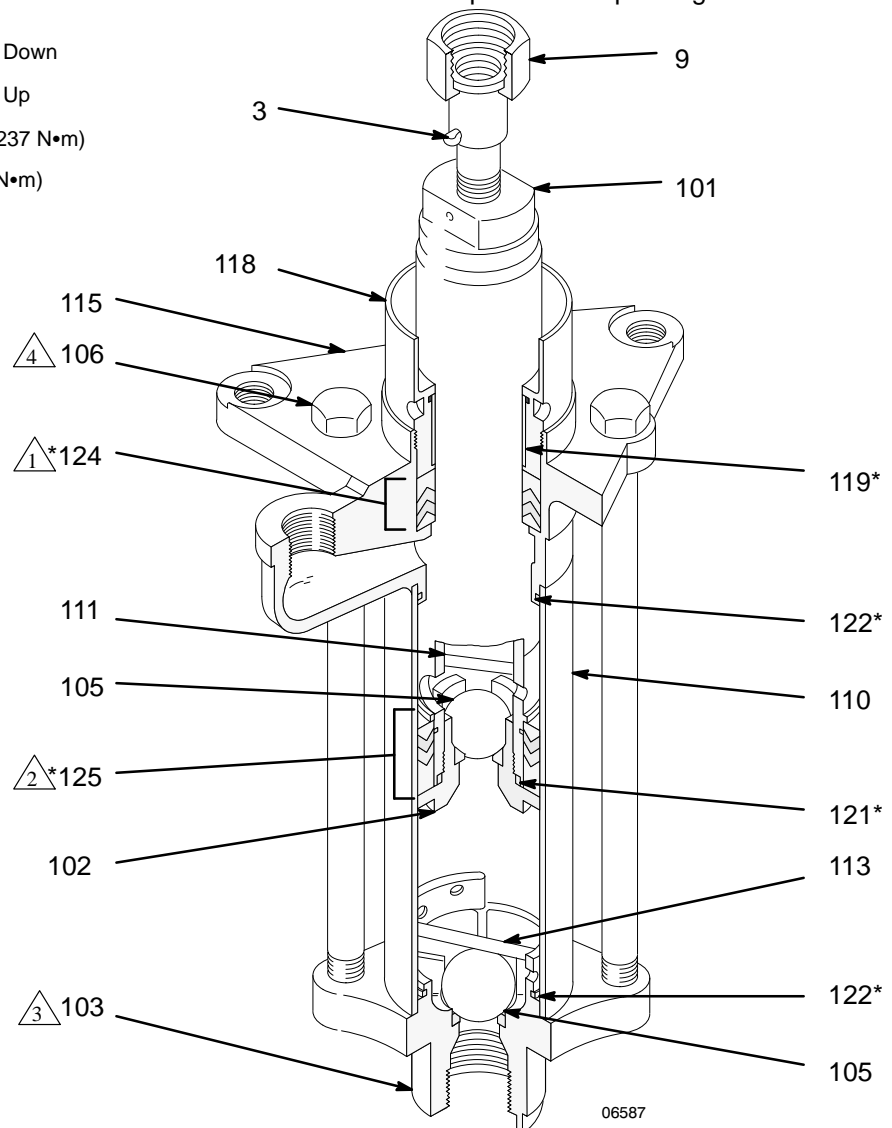

Fig. 4
2. Disconnect the hoses from the pump. Remove the pump from its mounting and clamp it in a vise. See Fig. 4 and the Parts Drawings.
3. Remove the intake tube (15) if present. Unscrew the three tie rod locknuts (4). Disconnect the riser tube (14) if present.
4. Remove the upper cotter pin (3) and unscrew the coupling nut (9). Pull the displacement pump (1) off the air motor (2).
5. Unscrew the four tie bolts (106) from the intake valve housing (103) and remove the intake valve from the pump.
6. Disassemble the intake valve, taking note of the position of the ball stop pin (113). Inspect the ball (105) and seat (103) for nicks and scratches.
7. Pull the cylinder (110) straight off the outlet housing (115), being careful not to scratch or damage the polished inner wall. Remove the o-rings (122).
8. Loosen the packing nut/wet-cup (118). Pull the displacement rod (101) out the bottom of the outlet housing (115).
9. Inspect the polished inner surface of the cylinder (110) and the outer surface of the displacement rod (101) for scoring or scratches which can damage the packings.
10. Unscrew the piston body (102) from the displacement rod (101). Disassemble the piston. See Fig. 4. Inspect the ball (105) and seat (102) for nicks or scratches. If you remove the ball stop pin (111), take note of which set of holes it was installed in.
1. Install the throat gland/packing stack (124*) into the outlet housing (115), with the lips of the v-packings facing down. The stack is preassembled. Do not disassemble the stack. See Fig 4.
2. Install the bearing (119*) in the packing nut/wet-cup (118) and loosely install the packing nut in the outlet housing (115).
3. Install the ball stop pin (111) in the desired holes in the displacement rod (101).
5. Lubricate and install the gland/packing stack (125*) on the piston (102) with the lips of the v-packings facing up. The stack is preassembled to the required dimension and includes up to three shims. Do not disassemble the stack. See Fig. 4.
6. Place the ball (105) on the piston (102) and screw the piston into the displacement rod (101). Torque to 150–175 ft-lb (203–237 N•m).
7. Slide the displacement rod (101) up into the outlet housing (115).
8. Install an o-ring (122*) on the groove at the bottom of the outlet housing (115). Carefully slide the cylinder (110) straight up into the outlet housing, being careful not to scratch or mar the polished inner surface of the cylinder.
9. Place an o-ring (122*) in the groove of the intake valve housing (103). Install the intake ball (105). Insert the ball stop pin (113) in the desired holes.
10. Install the four tie bolts (106) through the outlet housing (115) and into the intake valve housing (103). Tighten evenly.
11. Mount the displacement pump (1) on the tie rods (10) so the outlet is aligned with the optional outlet at the base of the motor. Install the riser tube (14), if used. Apply grease to the threads of the tie rods and install the tie rod locknuts (4) and tighten evenly. Install the cotter pin (3) and tighten the coupling nut (9). See Fig. 4 and the parts drawing on page 14.